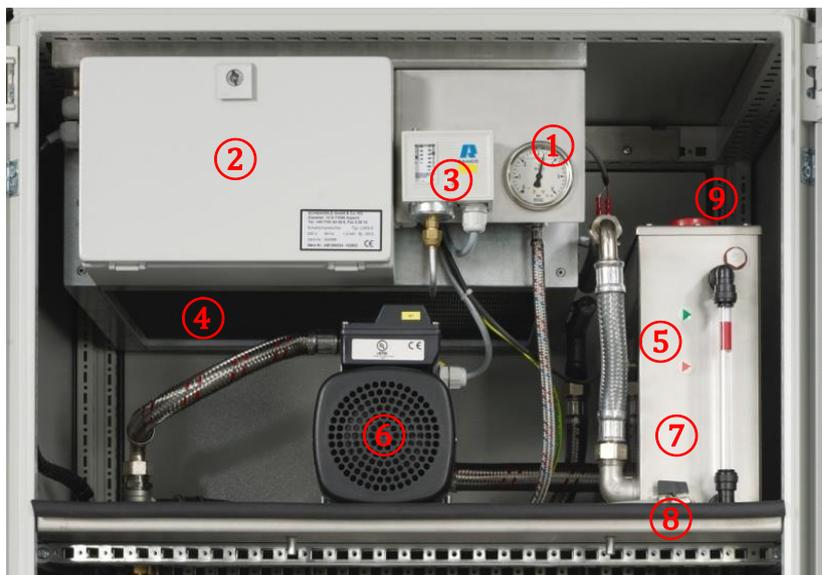

Fig. 4: Cooling system – main components
The device monitors the operating pressure. If the pressure is too low, the filter is not released for operation and **Fault 9 "Liquid Cooling"** is displayed in the status line of the monitor. The pressure on the manometer (Fig. 4, ①) can be checked when the switch cabinet door is open.
Cooling system control unit in switch cabinet (Fig. 4, ②)